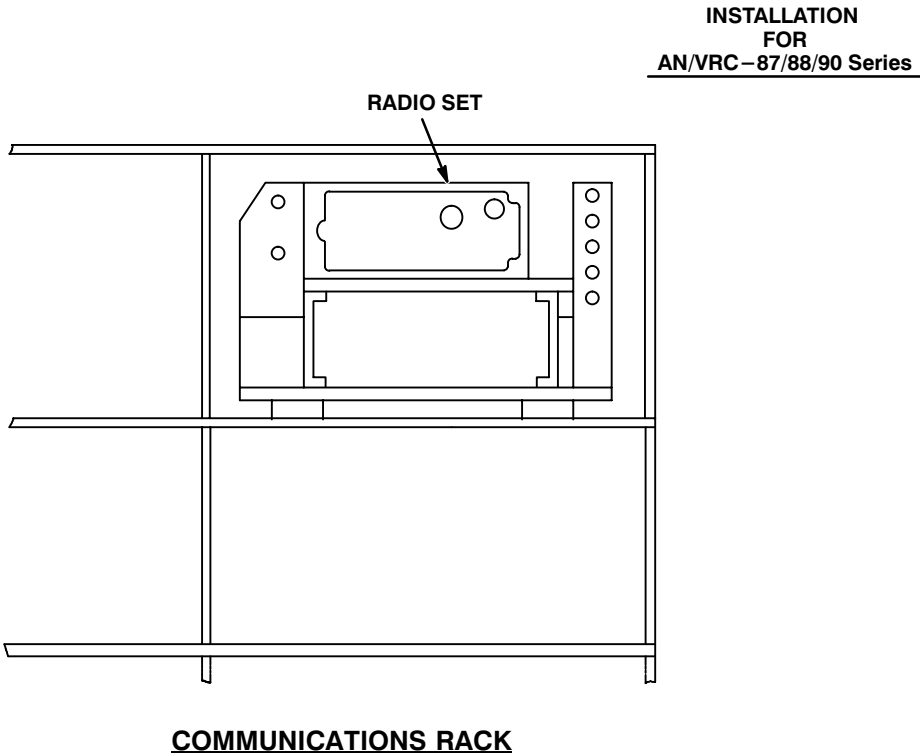

Figure 5-1 (2). MK and Radio Installation: Radio Equipment Locations
5.1 Installation of Antenna AS-3900/VRC (antenna). See figure 5-1 (1) for location.